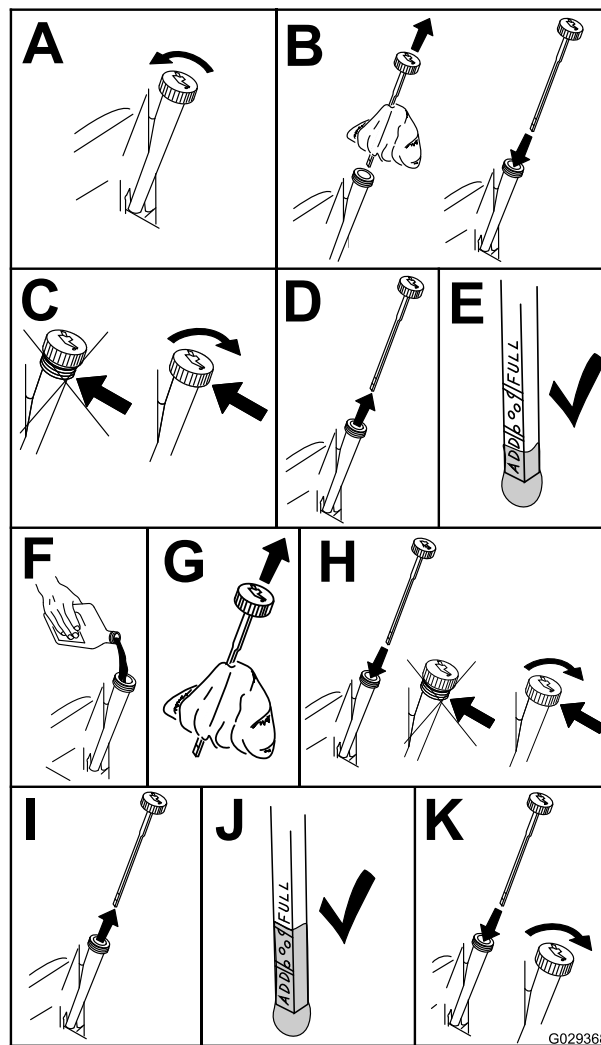

Figure 44
3. To keep dirt, grass clippings, etc., out of the engine, clean the area around the oil-fill cap and dipstick before removing it (Figure 44).